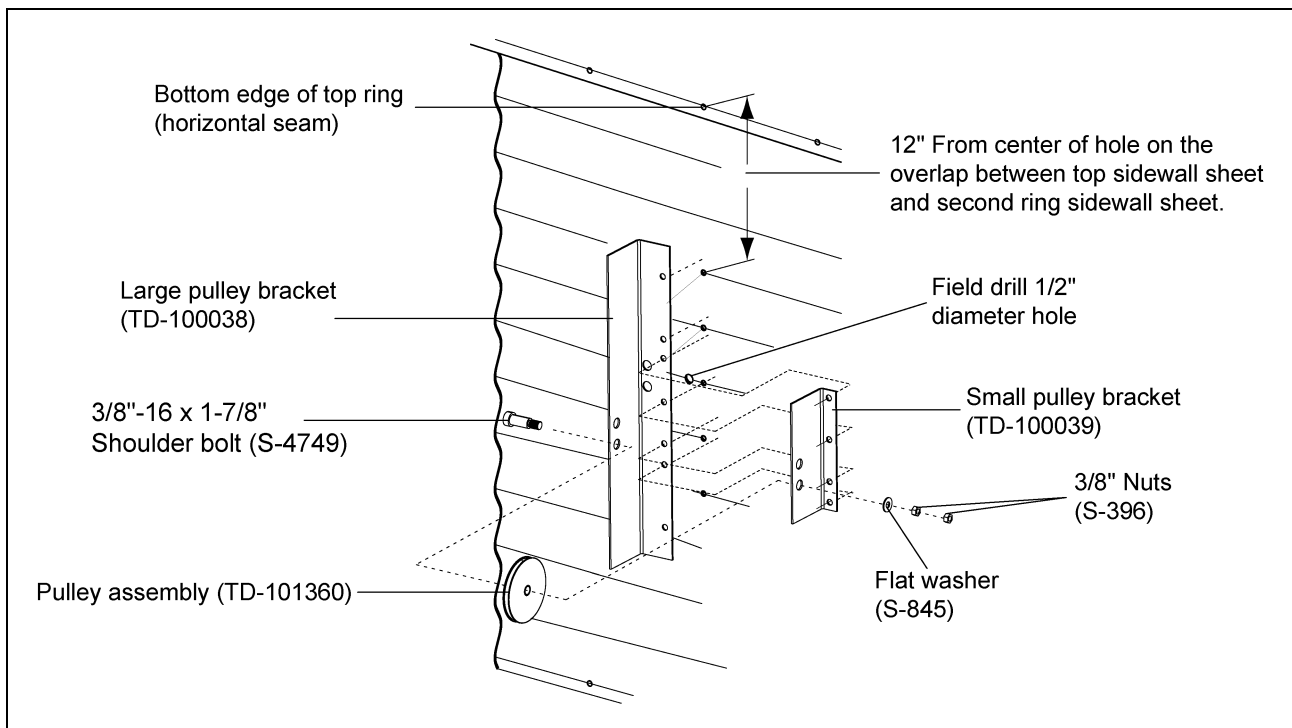

Figure 9B
Field drill five (5) 3/8" diameter holes as shown at left. Attach the pulley assembly with 5/16" x 3/4" bolts with the neoprene on the inside of the bin. (See Figure 9B.)